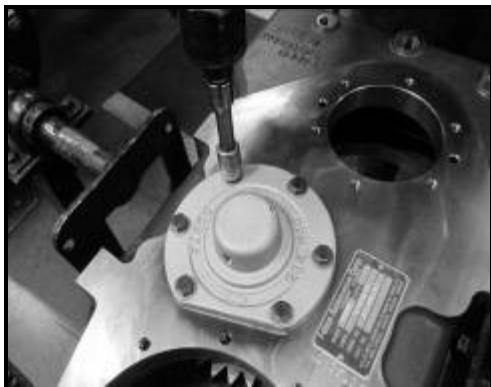

Figure 72
5. Install the six cap screws and washers. Torque to specification. See **Figure 72**.